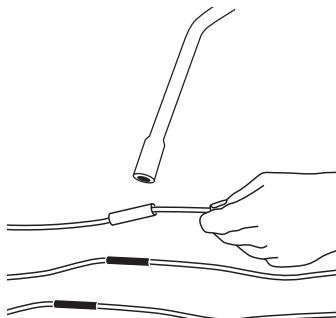

Fig. 6 Applying heat to the connector
5. Center the heat shrink tubing over the connector. Using a propane torch, lighter, or electric heat gun, uniformly heat the tubing starting first in the center working towards the ends; see fig. 6.